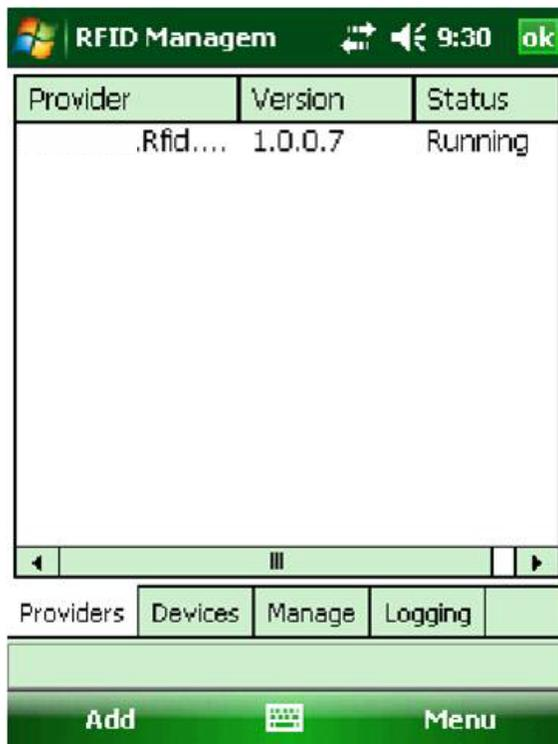

Figure 1-12 Provider Launch Verification
3. Confirm Zebra Provider is registered and starts successfully, as shown in Figure 1-12.